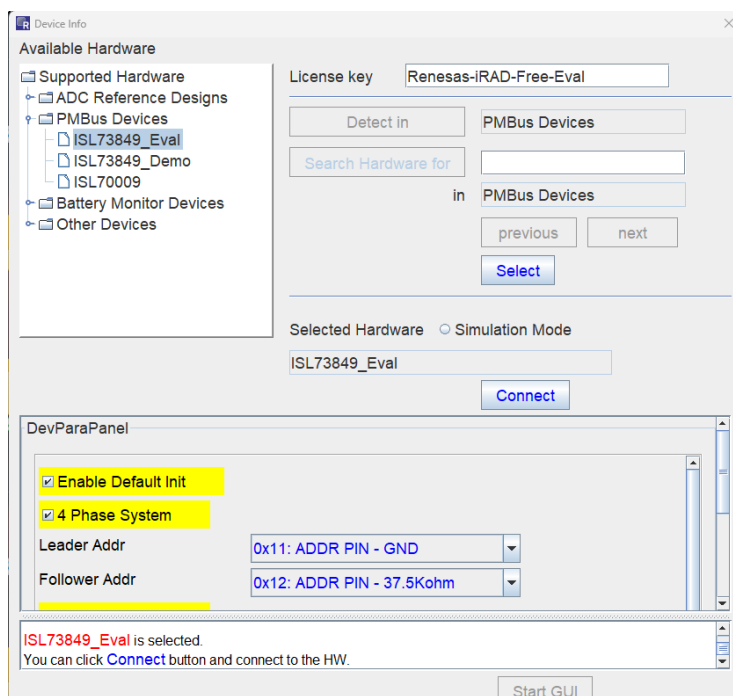

Figure 5. ISL73849_Eval 4-phase setup
14. Click the **Select** button. The **DevParaPanel** window opens as shown in Figure 5.
15. Select the checkbox for the 4-Phase System as shown in Figure 5.
16. Set the Leader and Follower PMBus address to match the selection on the board by using the **Leader Addr** and **Follower Addr** selection boxes as shown in Figure 5.